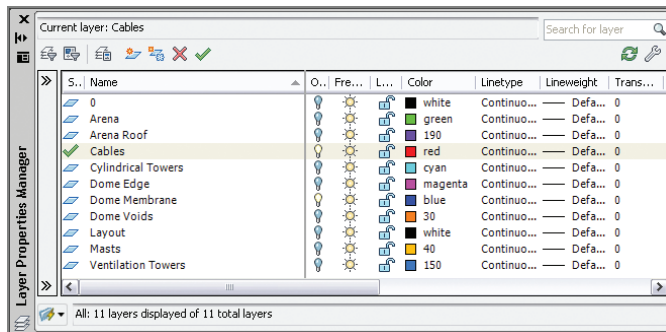

FIGURE 17.12 Changing layer states
15. Hover the cursor over the Layer Properties Manager's title bar to reveal the palette. Click the Cables layer's snowflake and darkened lightbulb icons both to thaw and toggle the layer on. Double-click the Cables layer's icon to set it as current (see Figure 17.12).